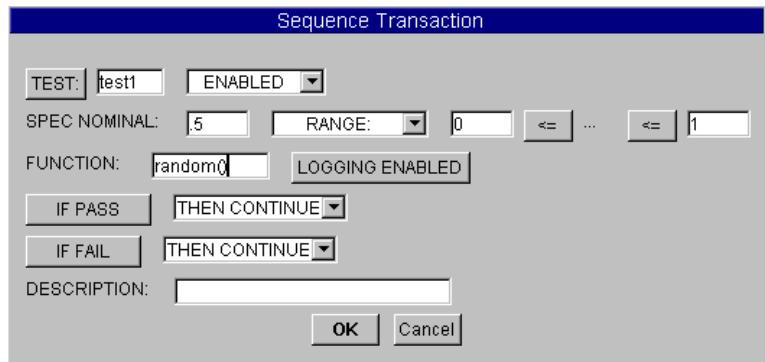

Figure 276 Configuring Test1
- 1 Click **Device** ⇒ **Sequencer**. Double-click the transaction bar, and configure your test using the default name, **test1**, and replacing the **FUNCTION:** field with **random()**. See Figure 276.